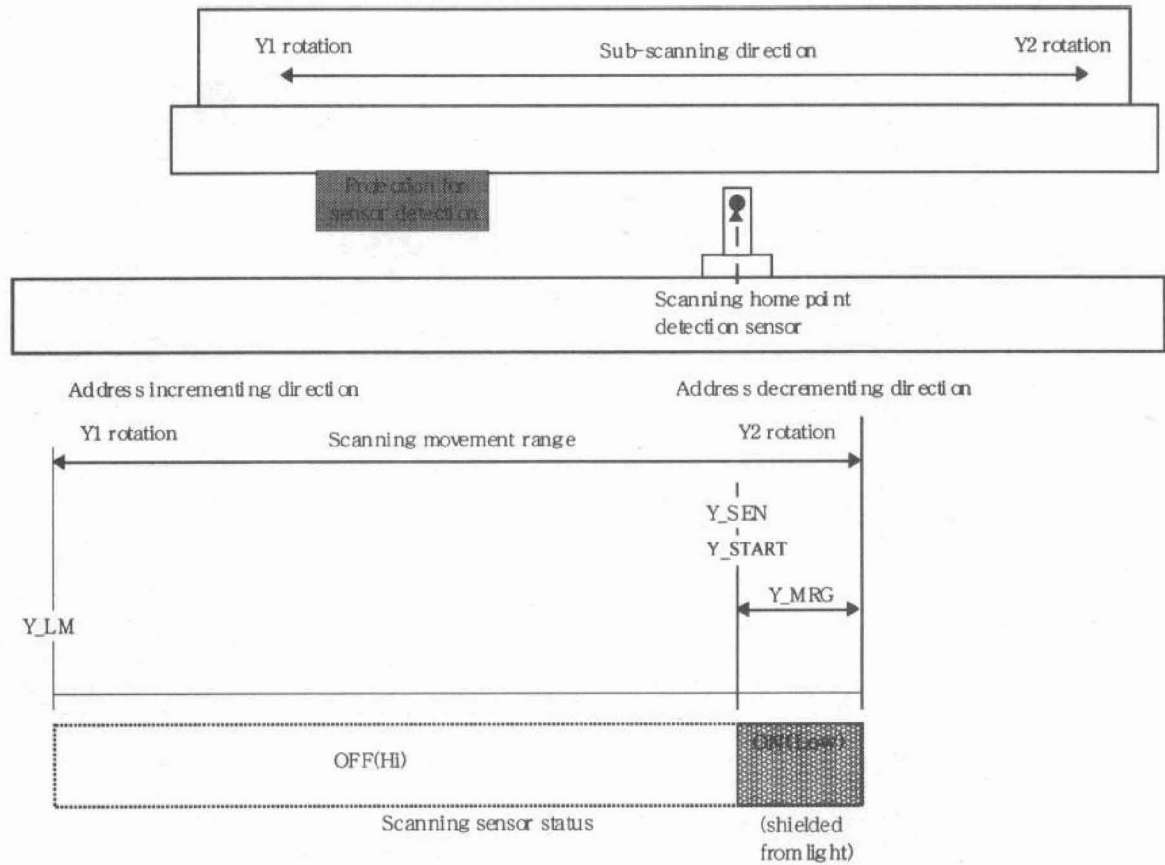

Fig. 1-1
• Scanning home point detection (see Figs. 1-1, 1-2)
- AF home point detection (see Figs. 1-1, 1-2)